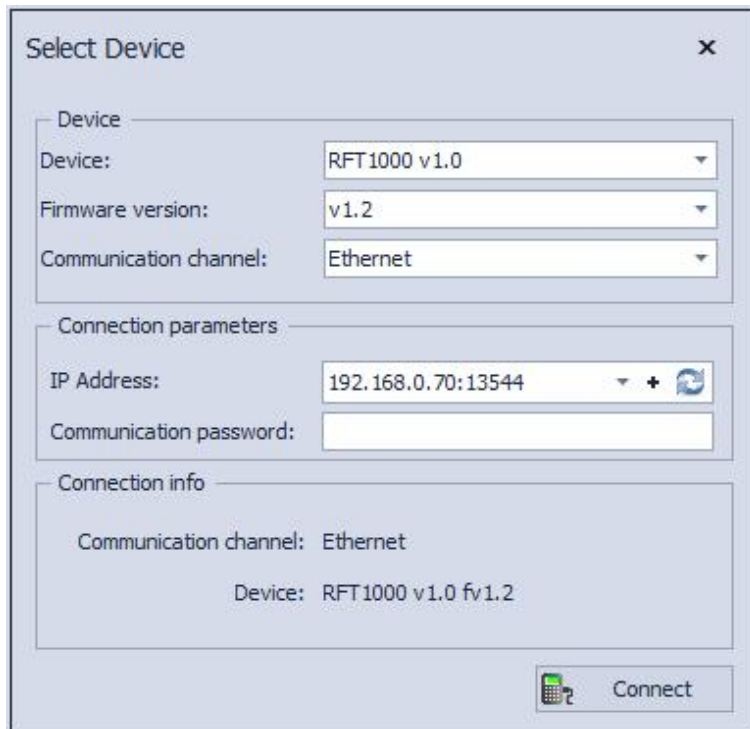
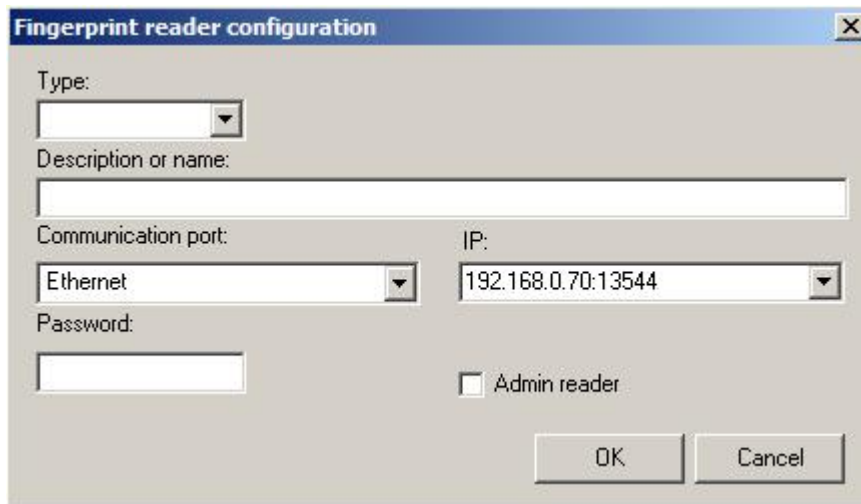

Fig. 6 Connection with RogerVDM software
Fig. 9 Connection with RFT1000 in PR Master software
4. In the newly opened window (see fig.6) select **RFT1000 v1.0** device, firmware version and then **Ethernet** communication channel.
In order to connect with RFT1000, select the option **Fingerprint readers** in the main window of PR Master software and then click the button **Add**. In the window shown in fig. 9, select RFT1000 reader and then select communication channel: Ethernet or RS485. The channel must be the same as previously selected in RogerVDM software and it must be in accordance with applied cabling – see fig. 2 (Ethernet) or fig. 3 (RS485).
Such password must be then entered when establishing connection with the reader by means of RogerVDM (see fig. 6) and when establishing connection with reader by means of PR Master (see fig. 9).